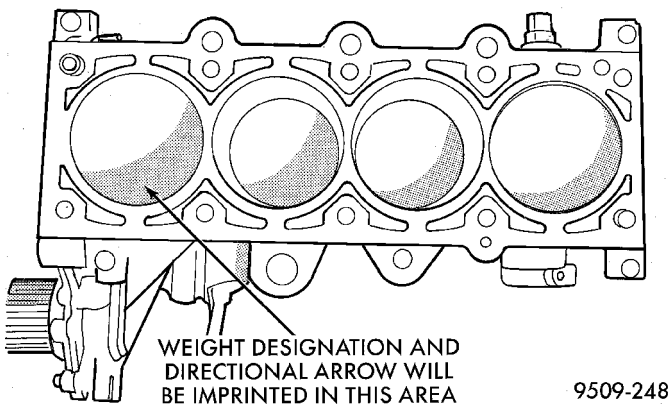

Fig. 78 Piston Markings
(1) Remove top ridge of cylinder bores with a reliable ridge reamer before removing pistons from cylinder block. **Be sure to keep tops of pistons covered during this operation**. Mark piston with matching cylinder number (Fig. 78).
(3) Pistons will have a stamping in the approximate location shown in (Fig. 78). These stamps will be either a directional arrow or a weight identification for the assembly. L is for light and H is for heavy. These assemblies should all be the same weight class. Service piston assemblies are marked with a S and can be used with either L or H produc-
should face toward the front of the engine for DOHC engine (Fig. 78).